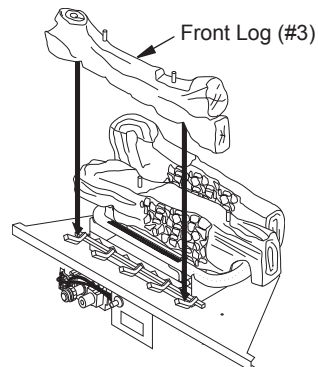

Figure 27 - Installing Front Log
3. Place front log (#3) onto grate fingers at front of base grate (see Figure 27). Make sure log seats well into grate.